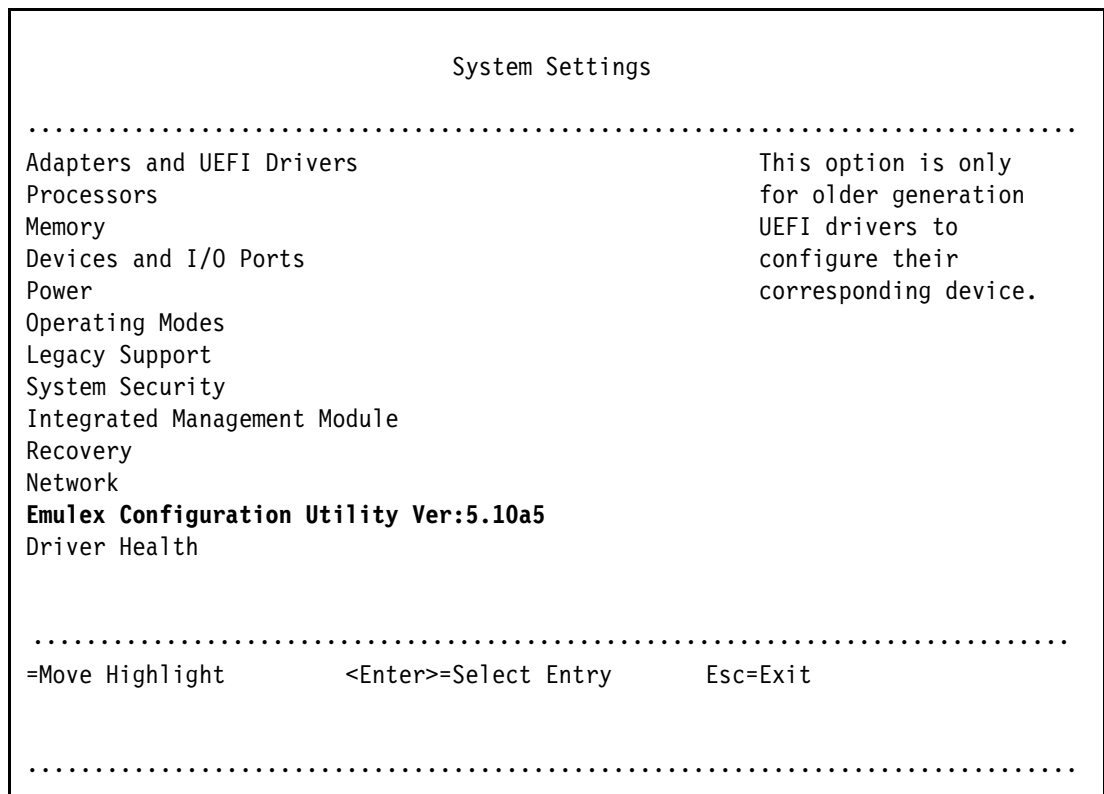

Figure 9-24 System Settings panel
3. In the System Settings panel (Figure 9-24), select **Emulex Configuration Utility Ver: x.xxxxx**.